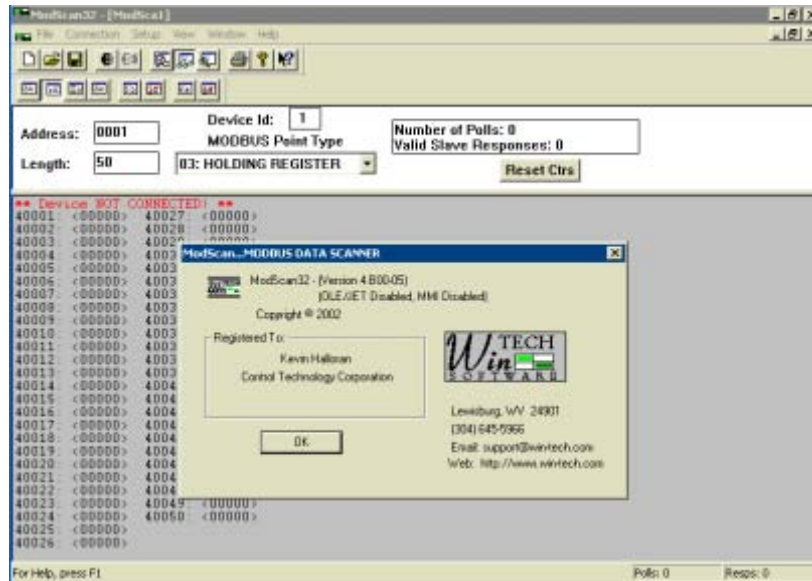

Figure 1.2: ModScan32 Master Scanning Program (only Holding Register supported)
You should also note that Modbus registers are 16 bits in width and that of the 5100 are 32 bits, since Modbus is Big Endian, this means reading register 1 in the 5100, the high 16 bits equates to Modbus register 1 and the low 16 bits to Modbus register 2. Modbus register 3 would be the high 16 bits of the 5100 register #2. A maximum of 50 Modbus registers can be read at once, or 25 5100 sequential registers. As a demonstration of the functionality of the 5100 Modbus TCP/Slave interface, this section details the interface of Win-Tech's ModScan32 software and how it applies with regard to our product. As mentioned before, we only support the Holding Register interface. Upon installation of ModScan32 a screen such as Figure 1.2 will appear. Note that the Address field is set to 1, but the display screen starts at 40001. This is Modbus nomenclature. Address of 1 is the same as the upper 16 bits of the 5100 register 1. Note Length is set to 50, the maximum allowable number of Modbus registers in a single read. Device ID is ignored since TCP is point to point.
3. Invoke ModScan32 and configure as per figure 1.2 and 1.3 for TCP operation.